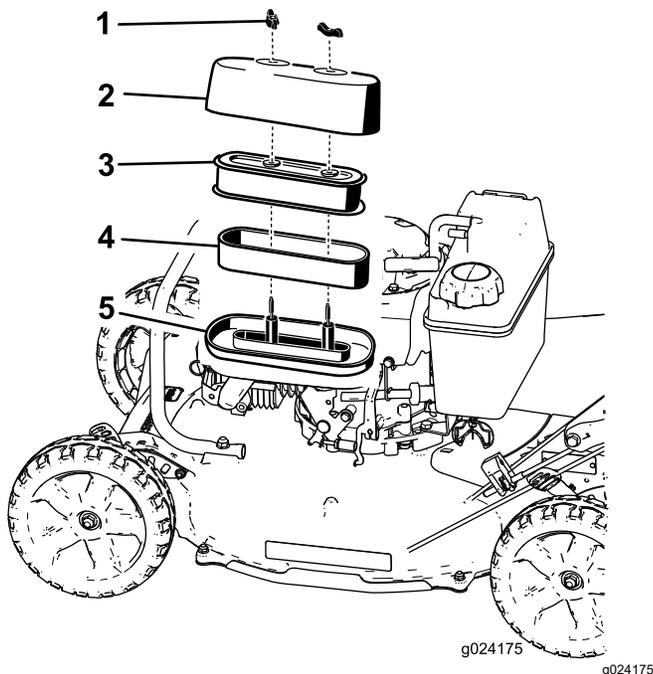

Figure 20
3. Remove the 2 nuts that secure the cover (Figure 20).
5. Remove the foam and paper elements from the base of the air filter (Figure 20).
6. Remove the foam element from the paper element (Figure 20).